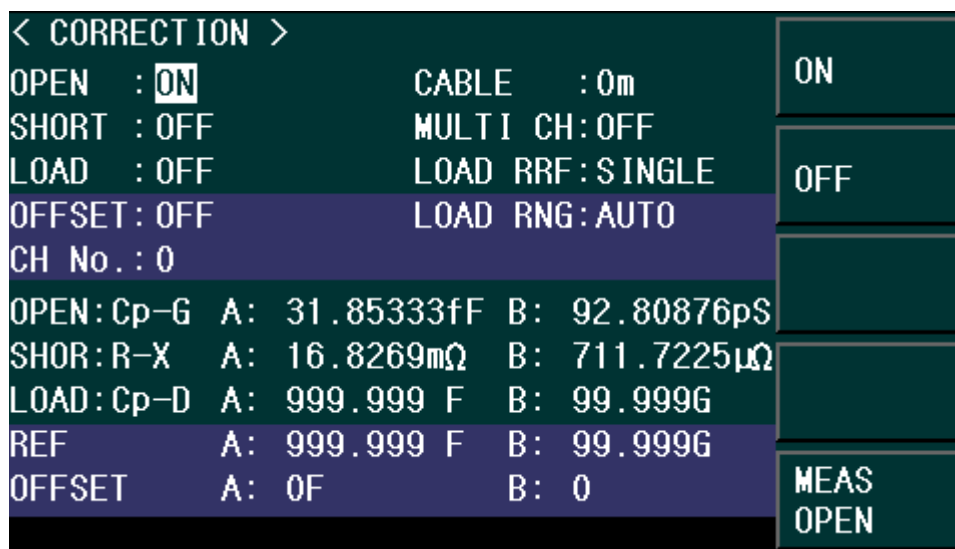

Figure 3-7 Screen upon completion of measuring data for OPEN correction
Step 6: When measurement of the data for OPEN correction is successfully completed, the OPEN correction turns to ON (as shown in Figure 3-7).